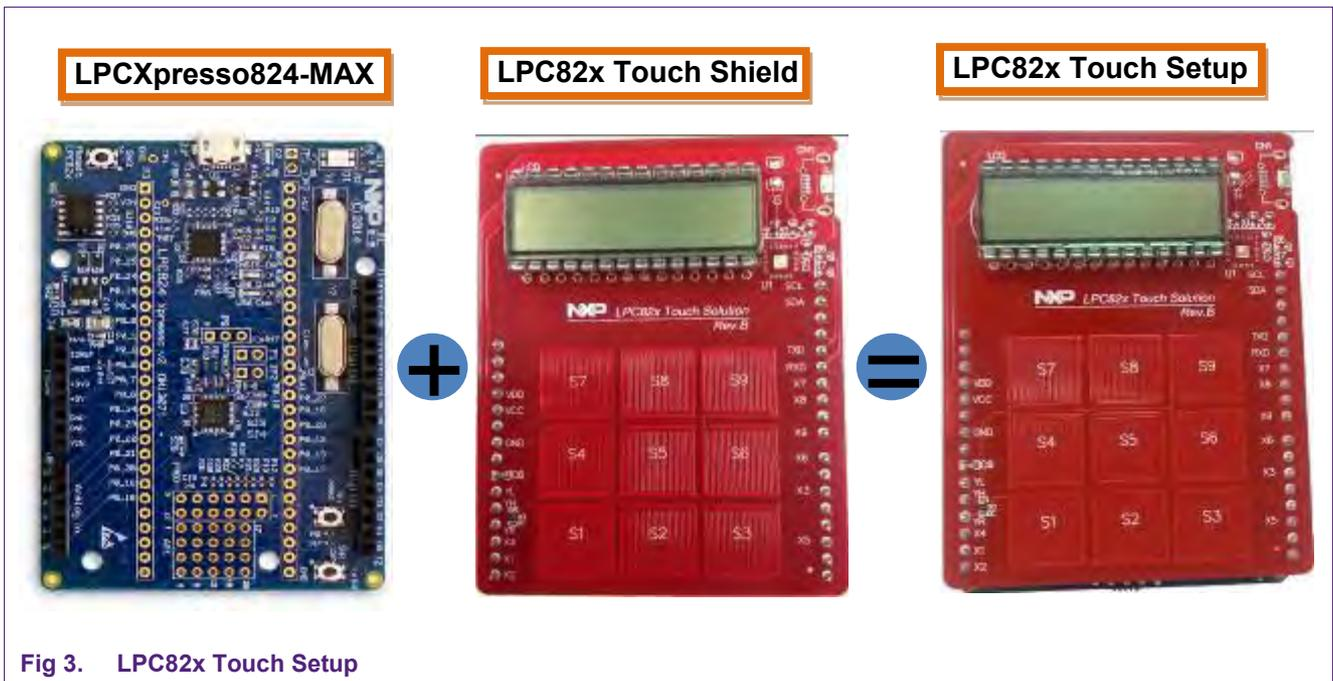

Fig 3. LPC82x Touch Setup
- Connect the LPCXpresso824-MAX board and LPC82x Touch Shield using Arduino UNO expansion connectors. See Fig 3.